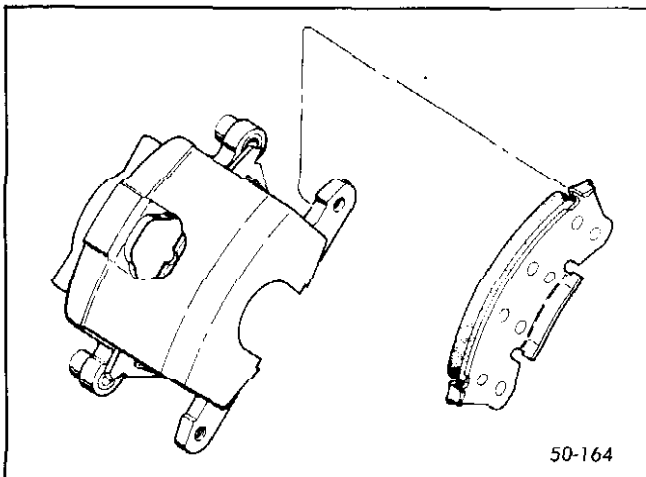

Figure 50-53--Installing Outboard Shoe
5. Position the outboard shoe in the caliper, with the ears at the top of the shoe over the caliper ears and the tab at the bottom of the shoe engaged in the caliper cut-out. See Figure 50-53.